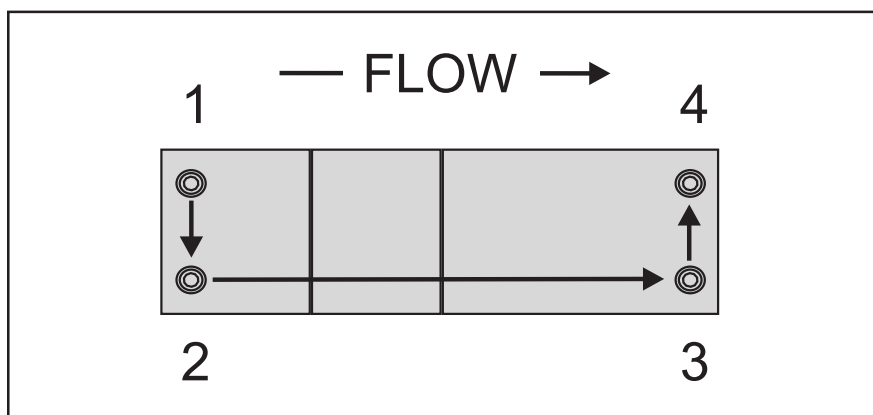

Figure 3-5 Mounting Screws Torque Pattern
- Using a torque wrench and a metric hex key, tighten the screws to the torque value as described in Table 3-2 and Torque Pattern Figure 3-5.
| GF125 to Substrate | Use a square pattern as shown in Figure 3-5. Start at 25 inch-pounds and increase in increments of 10 inch-pounds until proper value is obtained. | 45                   | 45   | 45  |